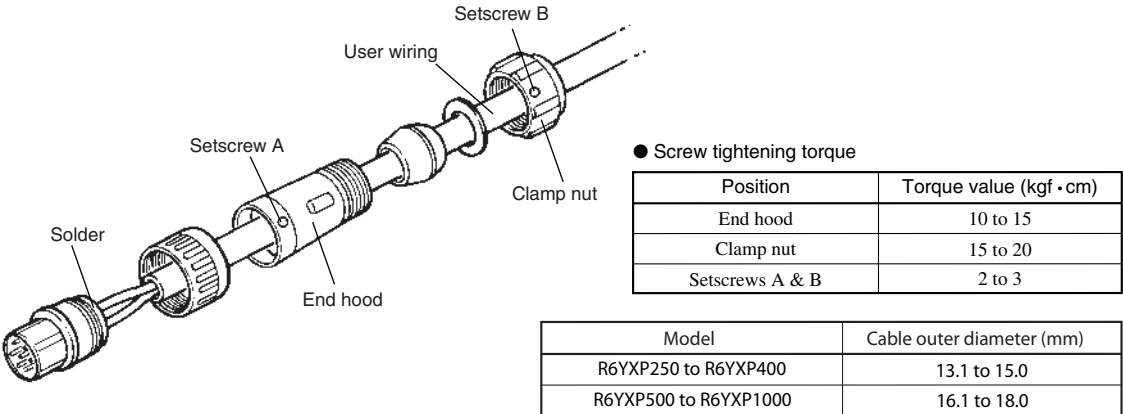

Fig. 3-1
4) Make wiring to the R6YXP250 through R6YXP1000 connectors as follows. Solder the user signal wires to the connector as shown in Fig. 3-1 and assemble the connector. Then connect it to the user wiring connector. Tighten each connector screw to the specified torque. When the outer diameter of the cable is small, use tape or an equivalent item to make the section under the cable clamp fatter. Otherwise, moisture and dust will penetrate inside.